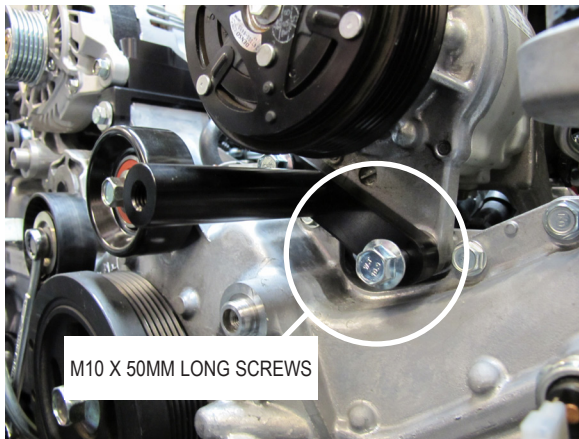

Fig. 3C
- D. Remove the two lower 14mm OEM A/C mount screws. Attach the mounting bracket support, with the spacer positioned towards the left side of the support, using the provided M10 x 50mm long screws. Torque screws to 30-36 ft-lbs. See Fig. 3C.